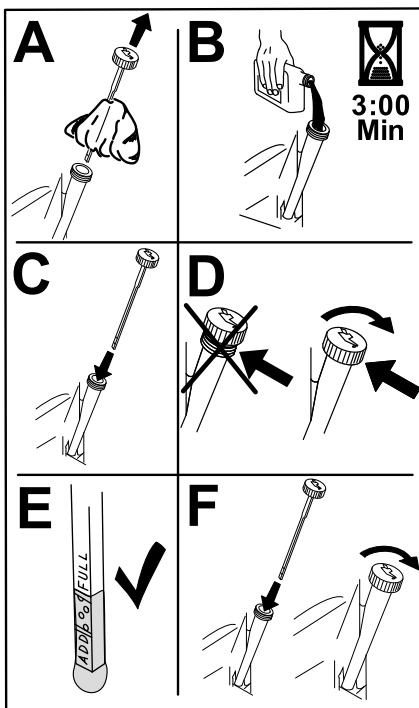

Figure 37
5. Slowly pour approximately 80% of the specified oil into the filler tube and slowly add the additional oil to bring it to the **Full** mark (Figure 37).
3. Fill the crankcase with the proper type of new oil (Figure 37).